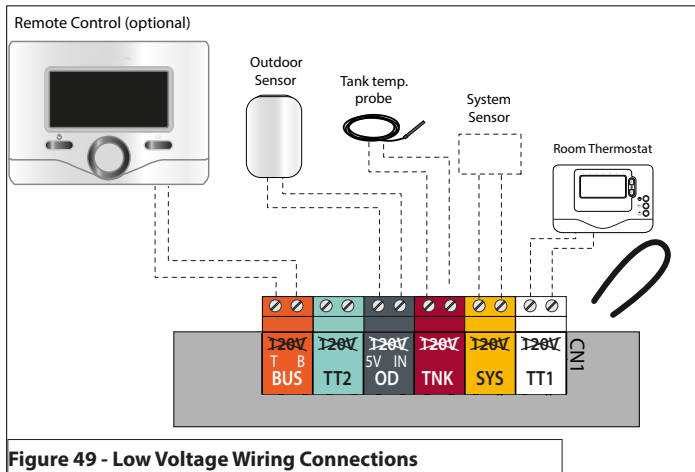

Figure 49 - Low Voltage Wiring Connections
- Connect the room thermostat wires to the terminals indicated in Table 19 and Figure 49.